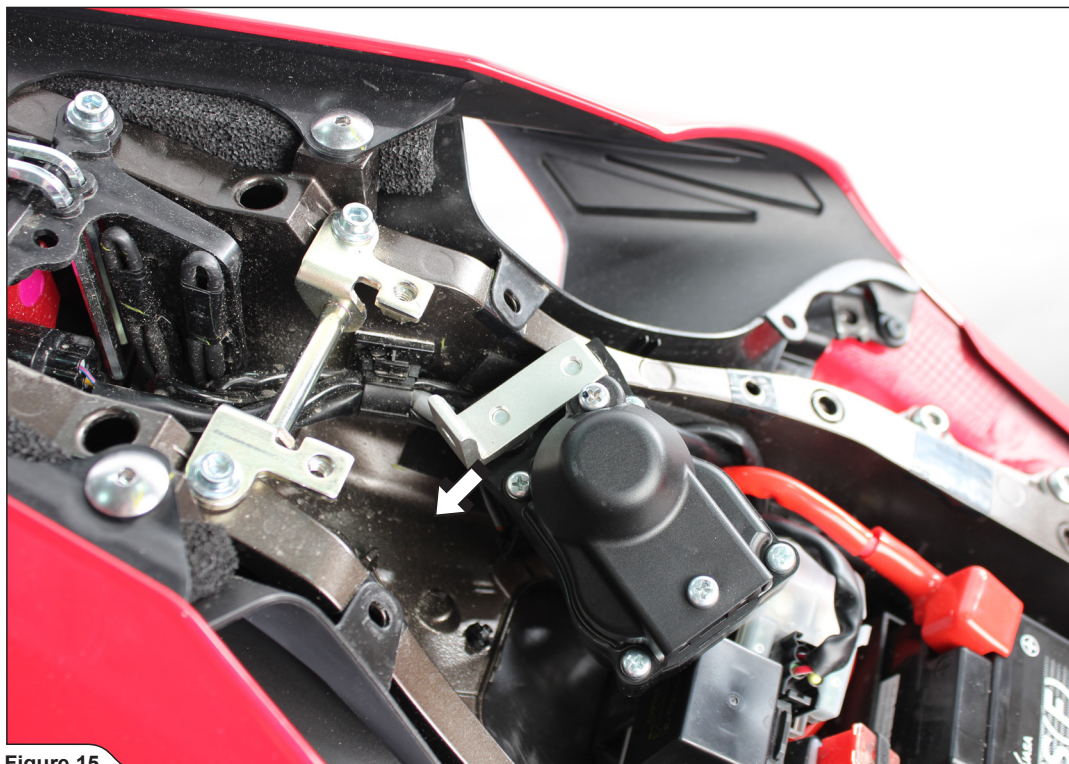

Figure 15
12. Reinstall valve servo motor without cables onto the motorcycle in reverse order from the order in which it was removed (Figure 15, 16).